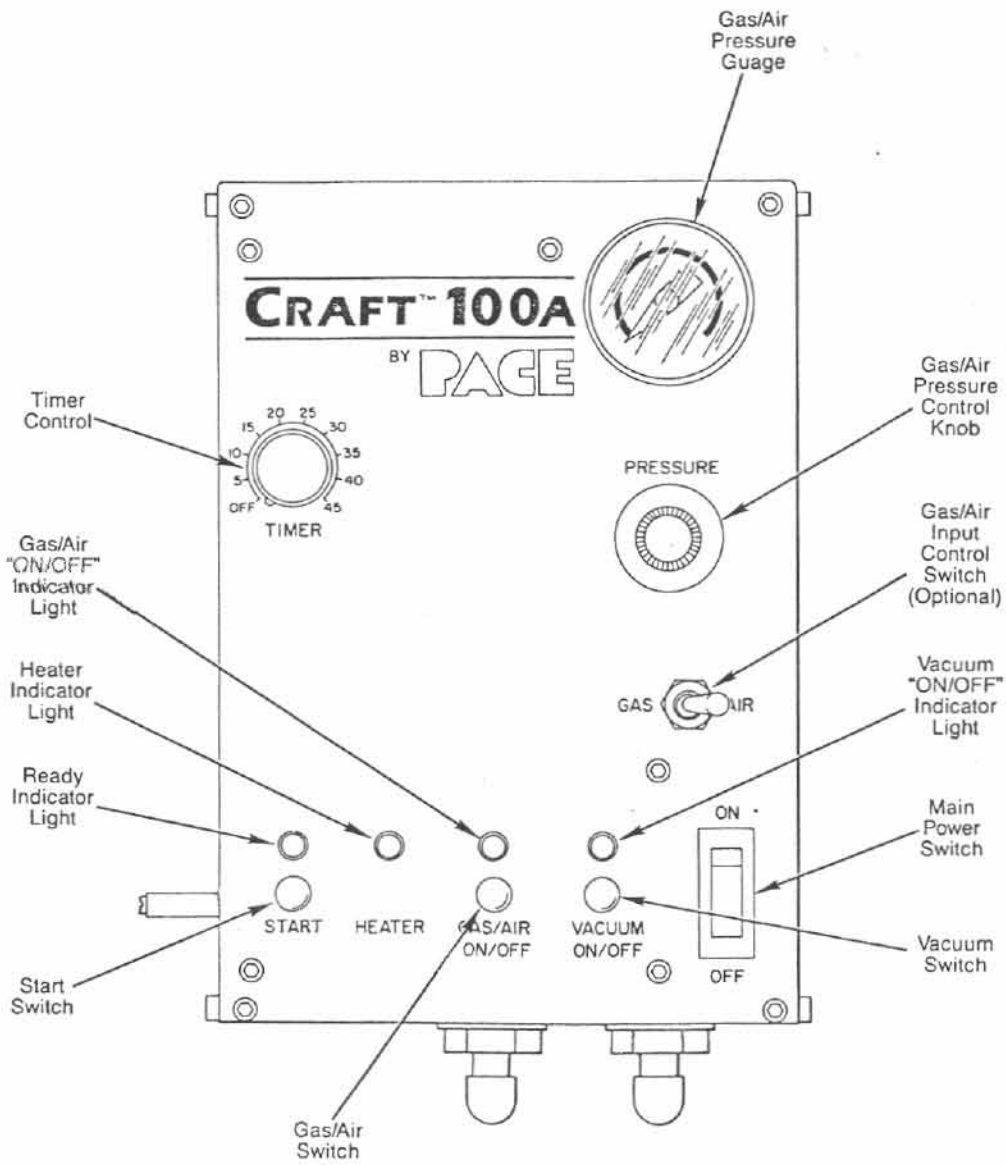

FIGURE 3. CONTROLLER PANEL IDENTIFICATION OF THE PACE CRAFT-100A
- CONTROLLER PANEL—conveniently located panel of all electrical, pneumatic, time cycle controls and indicators (see Table 2 and Figure 3 for Controller Identification).
Table 2 and Figure 3 refers to identification and location of controls and indicators required for the operation of the PACE Craft-100A System.